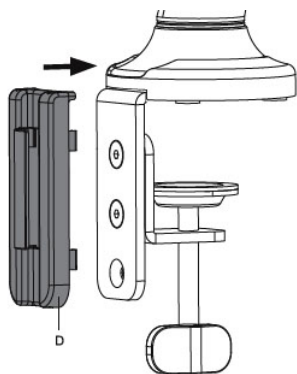

Figure 2C
3. Install the Decorative Cap (D) to the C-Clamp Brace, see Figure 2C.